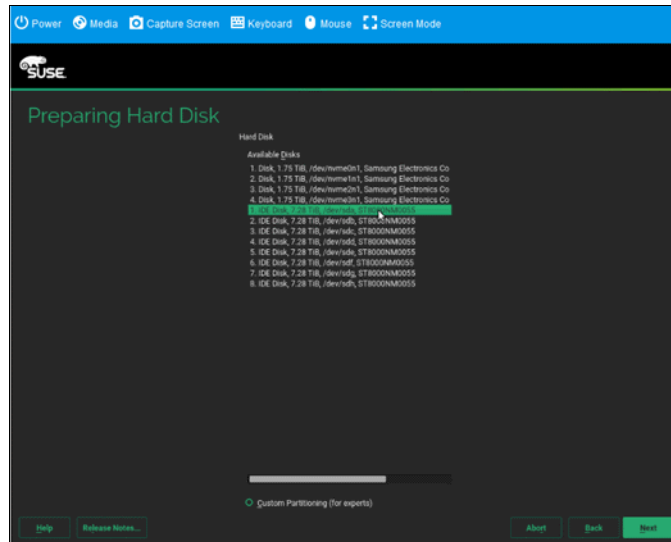

Figure 6-50 Select where the OS will be installed
17. Select the desired drive to install the OS on and click **Next** as shown in Figure 6-50 on page 211.